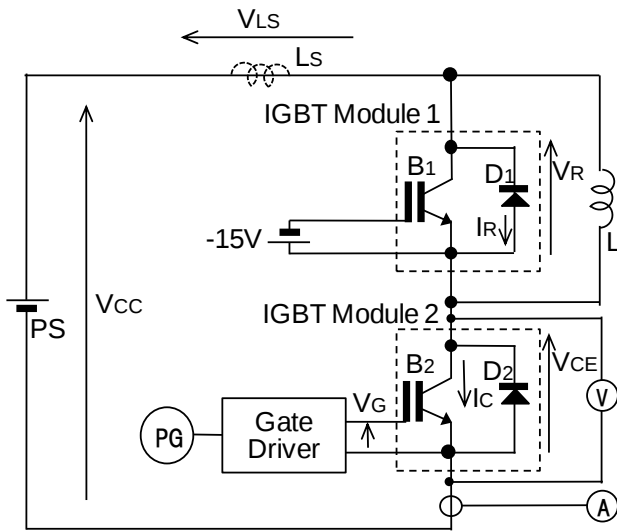
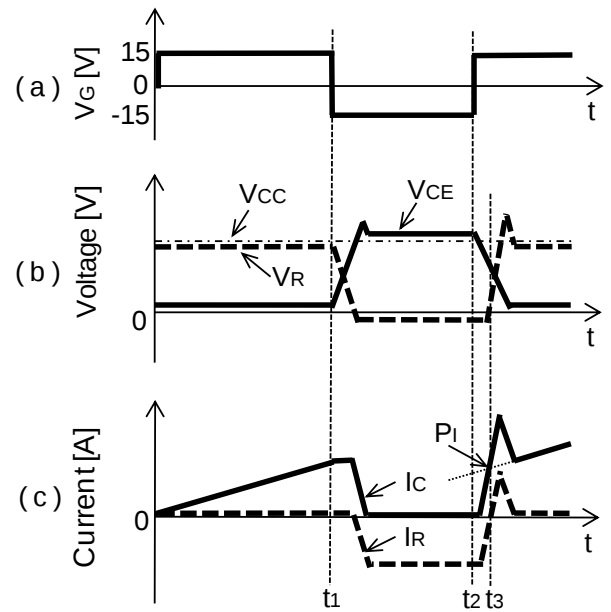

Fig.1. One phase circuit of inverter
Fig.2. Operation pattern for measuring L_s
In evaluating the characteristics of IGBTs, stray inductance of the test circuit is a major factor to be considered. This document presents the measurement method of the stray inductance (inclusive of the module's own internal inductance). In evaluation of IGBT, one phase circuit of inverter, as shown in Fig. 1, is generally utilized. The circuit is basically a half-bridge topology, composed of two series connected IGBT modules, a power supply (PS) and an inductive load (L), where the total stray inductance of the main circuit is symbolized as L_s .
The operational timing pattern of the circuit for measuring L_s is given in Fig.2 (a). The voltage and current waveforms of the pattern are shown in Fig.2 (b) and (c) respectively. In accordance with the pattern, IGBT B₂, i.e. Module 2, is operated. From $t = 0$ to t_1 the state of B₂ is ON and current I_C
Therefore, L_S can be specified using the measured voltage V_{CE} and current I_C as arranged in Fig.1. The voltage meter must be connected to sense terminals of IGBT module in order to accurately measure the value of L_S including the internal inductance of the module. The time point symbolized as by t_3 in Fig.2 (c) can be detected through the intersection point P_1 by checking the waveform of I_C .